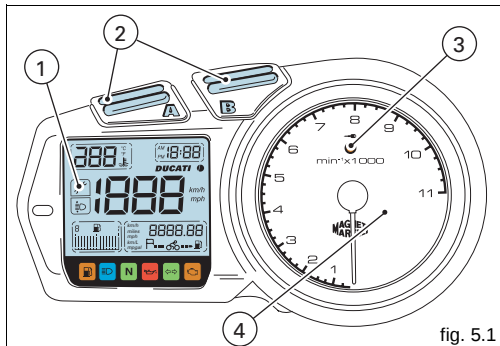
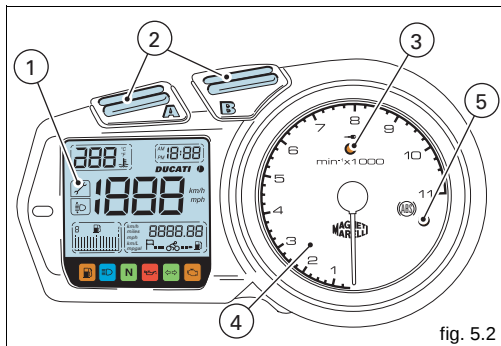

fig. 5.1
fig. 5.2
Instrument panel (fig. 5.1 and fig. 5.2)
Hold down button (A, fig. 5.1) for 2 seconds, the wording AM begins to flash. If button (B) is pressed, PM begins to flash; press button (B) to go back to previous step. Press button (A) to confirm and start setting hours that shall begin to flash. Use button (B) to set hours. If button (B) is pressed for more than 5 seconds, fast scroll is activated. Press button (A) to confirm and start setting minutes. Use button (B) to set minutes. If button (B) is pressed for more than 5 seconds, fast scroll is activated. Press button (A) to confirm and exit clock setting mode and go back to normal operation.
Press button (B, fig. 5.1) with the key on **ON** to scroll down the following functions, in sequence:
This function indicates the distance covered since the meter was last reset. It is possible to reset this indication by entering the relevant function and holding down button (A, fig. 5.1), for at least 2 seconds. When a value of 9999.9 km (or miles) is reached, the display will automatically reset.